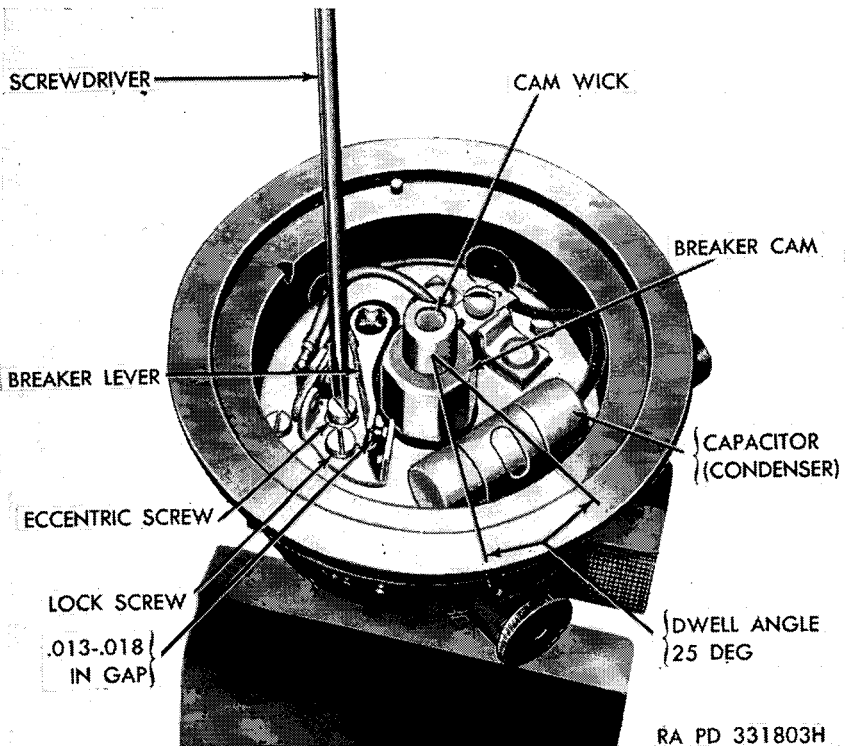

Figure 58. Adjusting contact point gap.
- (1) *Accessibility.* Contact points are accessible for service when the distributor is either on or off the engine, in or out of the vehicle. Figures 58 and 59 show operations being performed on the bench; however, the work may be performed in the same manner in the vehicle. Remove distributor cap and rotor to service contact points.
- (2) *Inspecting contact points.* The appearance of contact points reveals: first, whether the points require any service at all, and second, whether they should be cleaned or replaced. Contact point appearance can be judged by the conditions described in (a) through (d) below.
- (3) *Cleaning contact points.* If points are badly pitted, burned, or worn, remove and dress carefully on a smooth carborundum stone until all trace of corrosion or pitting is removed, keeping the surfaces as square as possible. Make sure that the points line up squarely with each other and adjust gap. Re-time ignition.
- (4) *Adjusting contact point gap.* Turn distributor drive shaft until cam is holding points at widest opening. Loosen contact support lock screw with screw driver, and adjust point opening to a clearance of 0.013–0.018 inch (0.015 is ideal) by turning eccentric screw (fig. 58) and checking clearance with feeler gage. Tighten lock screw and check clearance to make sure that points remained in adjustment.
- (6) *Replacing contact point set.* Remove lock screw from contact point support (fig. 58). Loosen screw which holds contact spring to connector. Remove retainer from contact point support stud. Lift out breaker lever and contact point support. Place new parts in position, install mounting screws and retainer, and adjust gap.